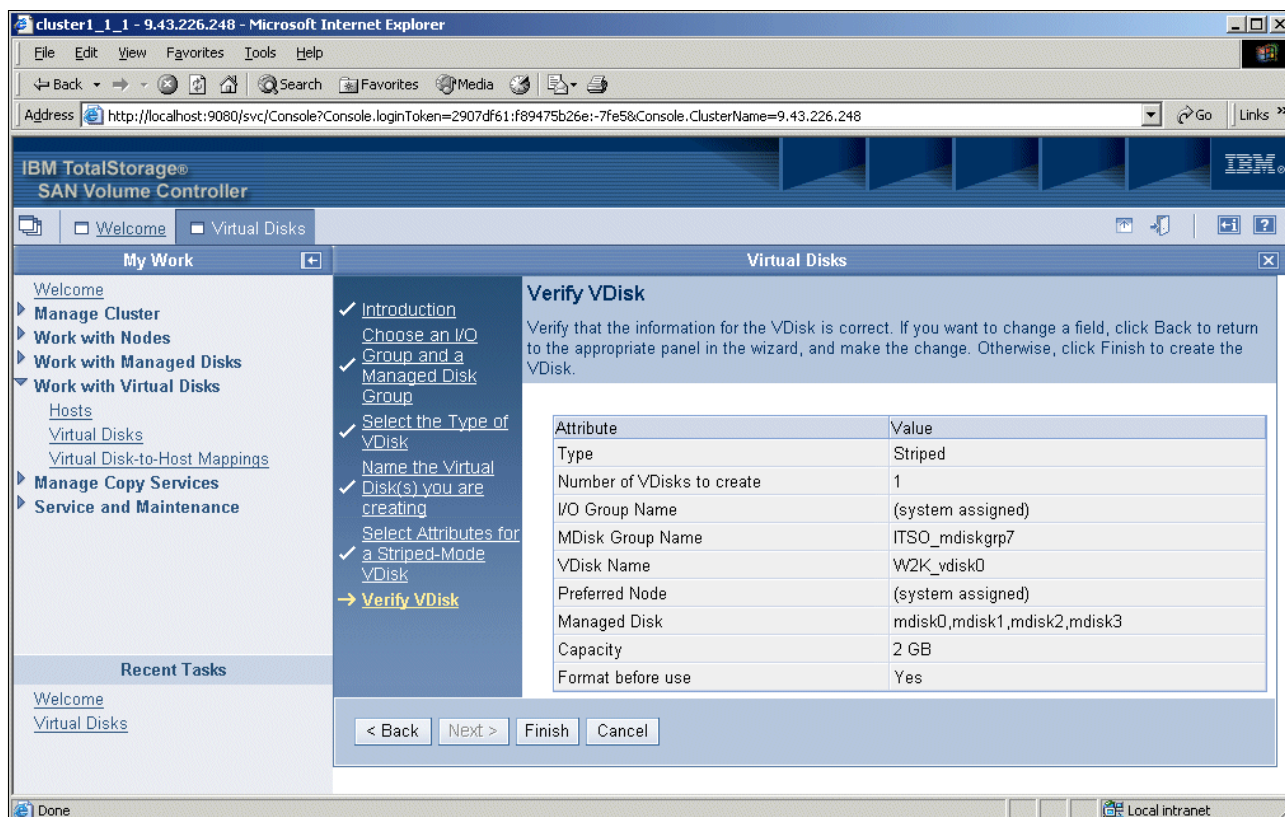

Figure 6-37 Verify vDisk
9. On the Verify vDisk panel (Figure 6-37), verify your selections. You can select the **Back** button at any time to make changes.